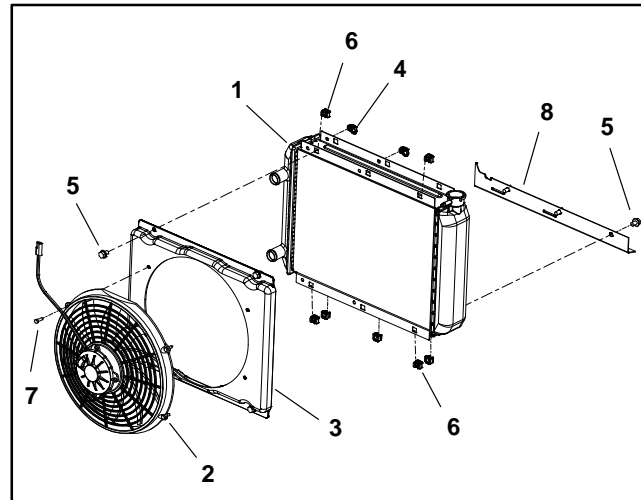

Figure 18
7. Drain radiator into a suitable container by disconnecting straight radiator hose (item 12) from the radiator.
8. Disconnect upper coolant hose (item 9) from the radiator.
9. Disconnect coolant hose (item 29) from the radiator filler neck.
11. Detach radiator assembly (item 3) from radiator mount (item 1):
- A. Remove two (2) flange head screws and flat washers that secure the top of the radiator assembly to the mount.
- B. Remove two (2) flange head screws and flange nuts that secure the bottom of the radiator assembly to the mount.
14. If necessary, remove components from radiator assembly using Figure 18 as a guide.
1. If radiator assembly was disassembled, install components to radiator using Figure 18 as a guide. Make sure that clearance exists between shroud and fan at all points.
4. Connect coolant hose (item 29) to the radiator filler neck. Secure hose with hose clamp.
5. Connect upper coolant hose (item 9) and straight radiator hose (item 12) to the radiator. Secure hoses with hose clamps.